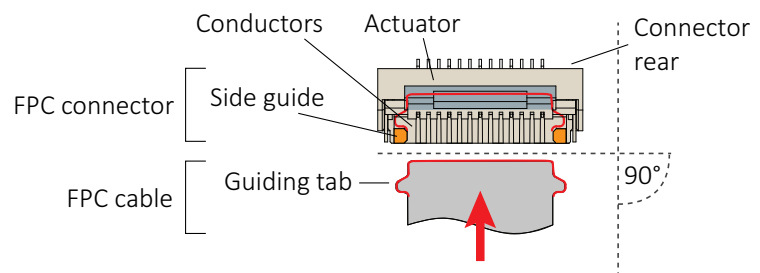
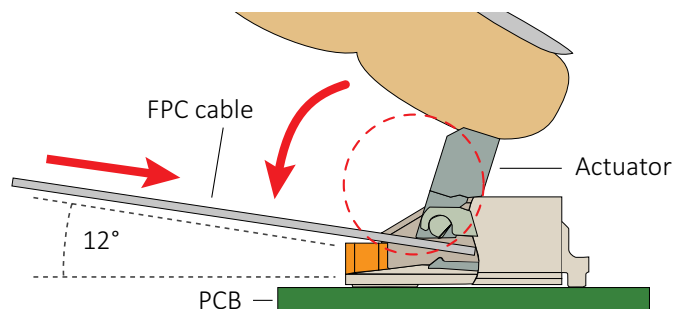

Figure 23: FPC cable and FPC connector
Figure 24: Engaging the FPC cable in the FPC connector
2. **Ensuring proper cable direction between host and camera**, take the FPC cable with conductors facing the FPC connector conductors (see Figure 23).
At a horizontal angle of 90° to the connector's rear (see Figure 23) and at a vertical angle of 12° to the PCB (see Figure 24), slowly insert the FPC cable into the actuator...
4. ...until cable guiding tabs are caught between connector rear and side guides (see Figure 23). Pull the cable slightly to ensure guiding tabs are properly engaged.
5. Holding the FPC cable in position, flap down the actuator to closed position (see Figure 24).